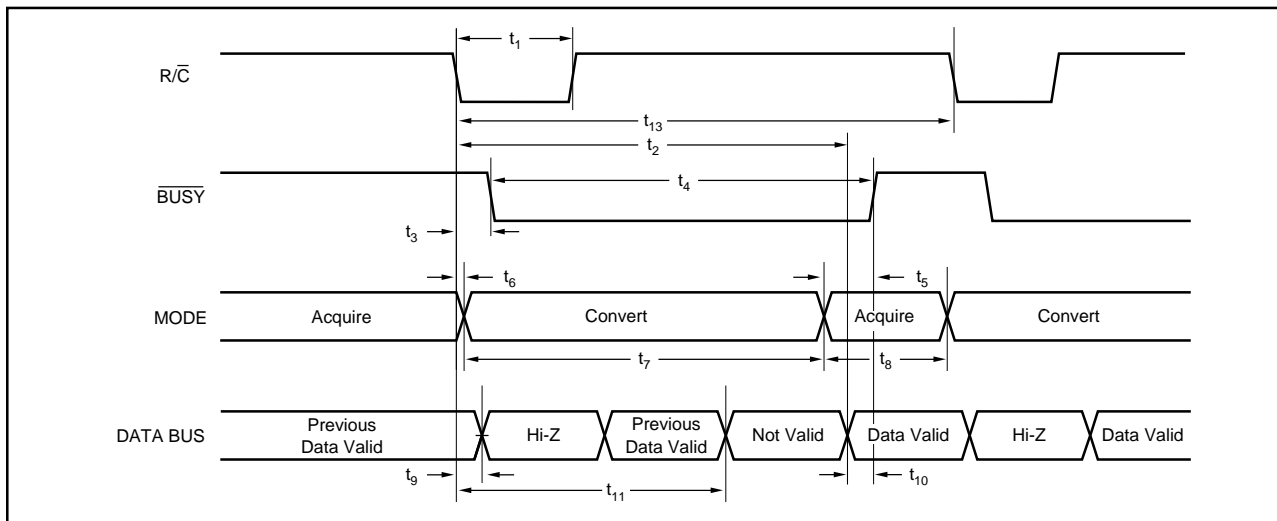

FIGURE 3. Conversion Timing with Outputs Enabled after Conversion (\overline{CS} Tied LOW.)
The ADS7821 will begin tracking the input signal at the end of the conversion. Allowing 10µs between convert commands assures accurate acquisition of a new signal. Refer to Table II for a summary of $\overline{\text{CS}}$, R/C, and $\overline{\text{BUSY}}$ states and Figures 3 through 5 for timing diagrams.
NOTE: (1) See Figures 3 and 4 for constraints on data valid from conversion "n-1".
After conversion 'n' is completed and the output registers have been updated, \overline{BUSY} (pin 26) will go HIGH. Valid data from conversion 'n' will be available on D15-D0 (pin 6-13 and 15-22). \overline{BUSY} going HIGH can be used to latch the data. Refer to Table IV and Figures 3 through 5 for timing specifications.
After conversion 'n' has been initiated, valid data from conversion 'n-1' can be read and will be valid up to 5 μ s after the start of conversion 'n'. Do not attempt to read data from 5 μ s after the start of conversion 'n' until \overline{BUSY} (pin 26) goes HIGH; this may result in reading invalid data. Refer to Table IV and Figures 3 through 5 for timing specifications.
The number of control lines can be reduced by tying \overline{CS} LOW while using $\overline{R/C}$ to initiate conversions and activate the output mode of the converter. See Figure 3.